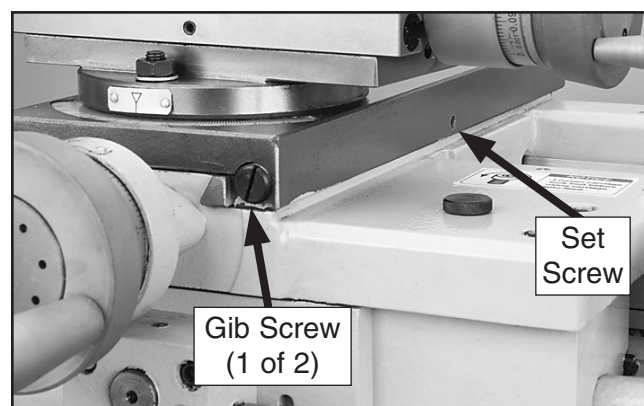

Figure 106. Cross slide gib components.
2. Loosen locking set screw shown in **Figure 106**.